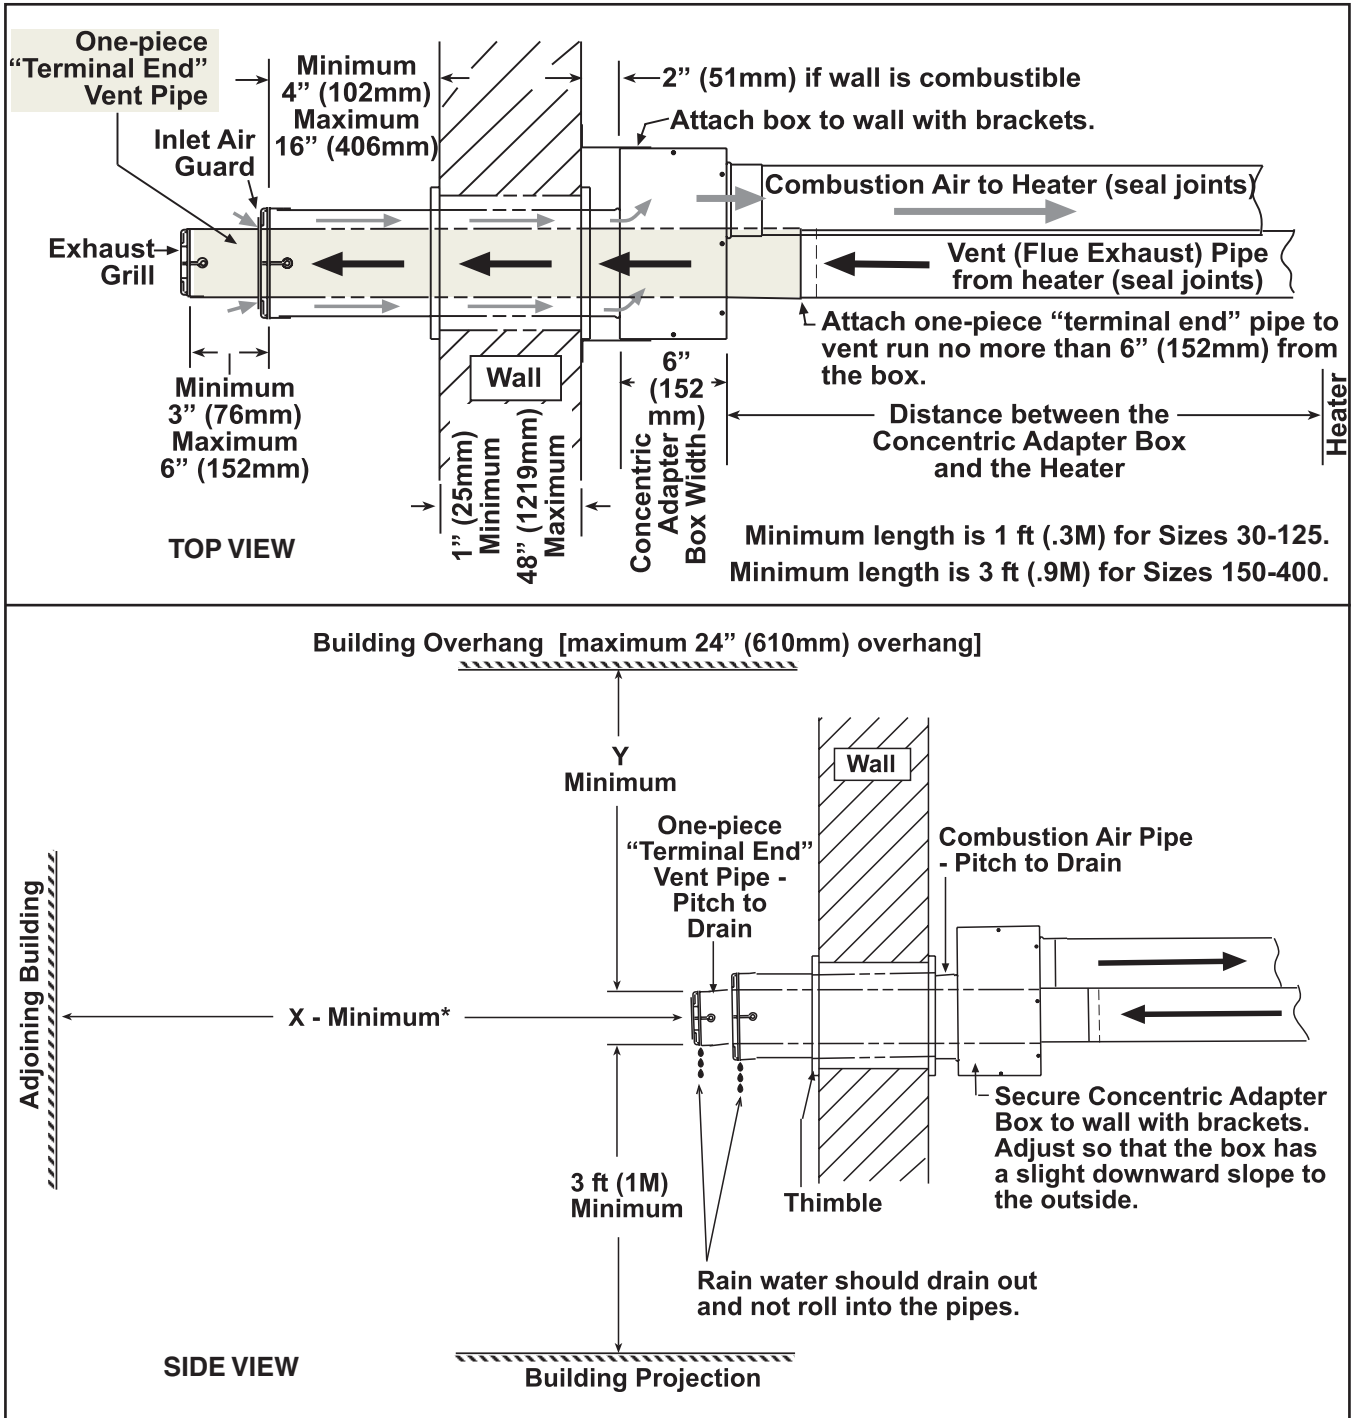

Figure 14. Option CC6 Installation (Refer to Table 10)
5. Connect outside section of combustion air pipe to concentric adapter box (see **Figure 14**):
- (1) Bracket length from box to wall
- (2) Plus wall thickness
- (3) Plus 4–16 inches (102–406 mm) beyond wall
6. Secure concentric adapter box to wall (see **Figure 14**):
- a. Position inlet guard over end of combustion air pipe in accordance with **Figure 14**.
Unit Size (MBTUh)	Dimension (See Figure 14)
- a. Position exhaust grill over end of vent pipe in accordance with Figure 14.
11. Verify compliance with Figure 14 and with all specifications and requirements listed in this manual.